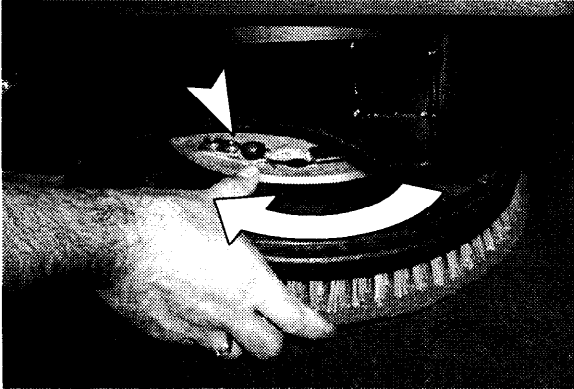

Figure 12
- To attach pad driver to machine, insert pad driver's mounting studs into drive plate slots. Hold drive plate with thumb and give the driver a quick turn toward the spring clip. Be certain that all three mounting studs are engaged before operating machine (Fig. 12).